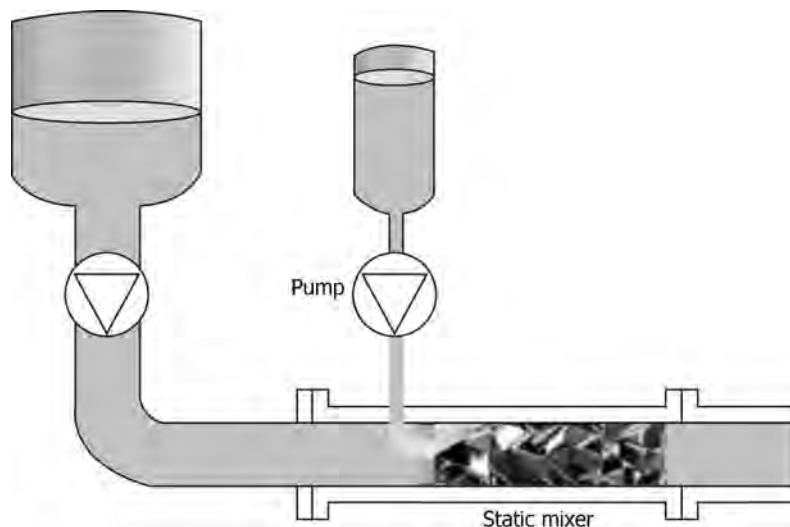

FIGURE 6.20 Static mixer.
- Figure 6.20 illustrates a static mixer for solids mixing.